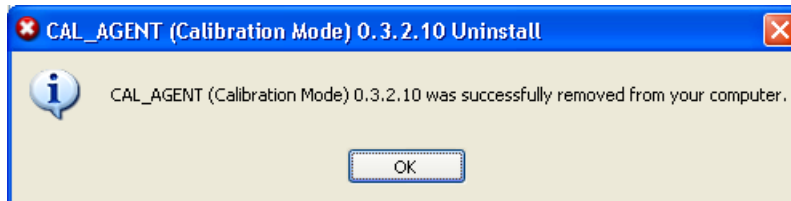

Figure 2-44: Software Successfully Removed Message
6. A message displays verifying that CAL_AGENT successfully removed, as shown in Figure 2-44. Click **OK**.